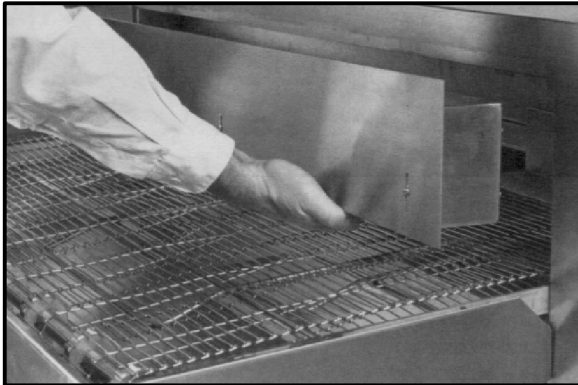

Figure 9
1. Install the upper end plugs on both ends of the oven. See Figure 9. Secure the upper end plugs with two wing nuts on the bottom of each plug.